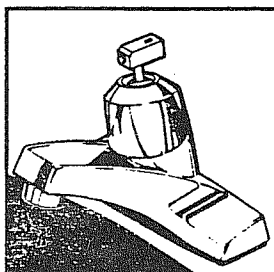

Figure 11
3. Carefully note the position of the handle adapter (5) to insure correct reassembly. Loosen handle adapter set screw (6) with Allen wrench. Remove handle adapter. Figure 11.
4. Lift off decorative cap (7).
5. Loosen and remove brass hold down ring (8).